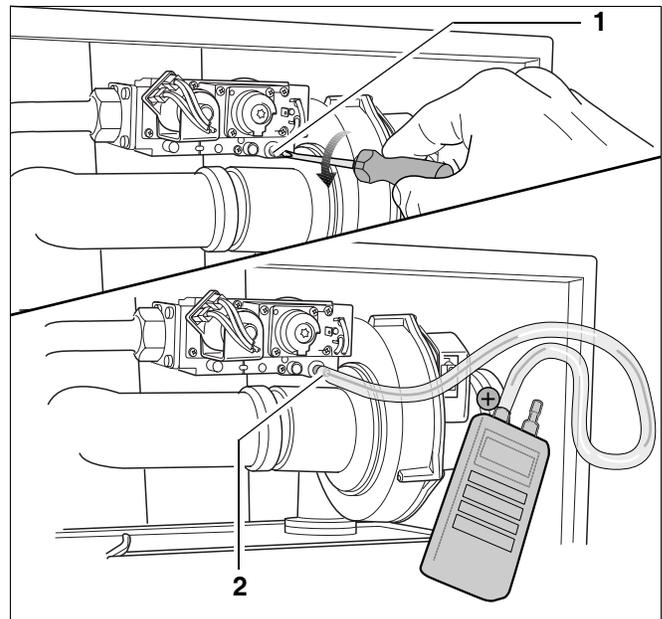

Fig. 60 Checking the gas/air ratio
- Open the screw plug on the testing nipple for the burner pressure by 2 turns (fig. 60, pos. 1).
- Use a connection tube to connect the positive port of the pressure gauge to the testing nipple for burner pressure (fig. 60, pos. 2).